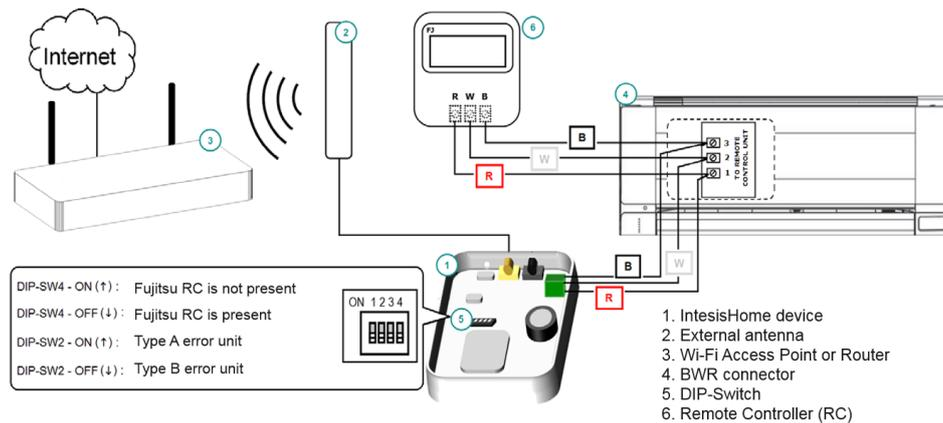

Figure 61. IntesisBox MH-RC-WMP-1 connections.
**Step 2:** Connect another cable from Fujitsu's Indoor Unit RWB to Fujitsu's Wired Remote Control connector (if present) & configure the IntesisBox switches (see below Figure 61).
**Step 3:** Connect the external antenna into the antenna connector & Place the antenna preferably in a vertical position and pointing directly to the Wi-Fi Router or Access Point (AP). When done then plug the Mitsubishi system to mains electricity.